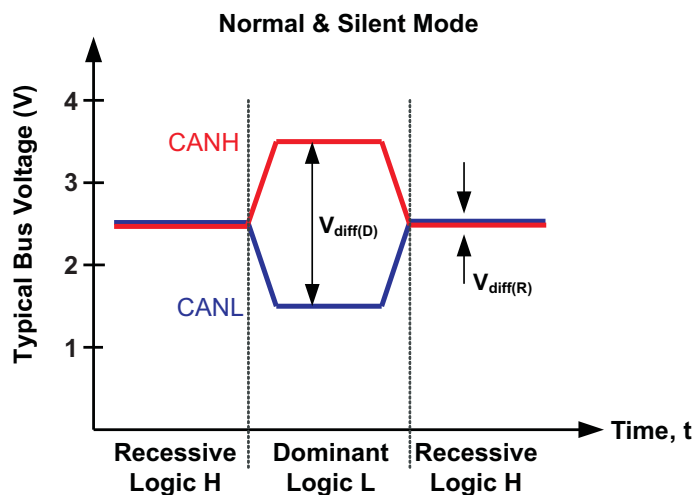
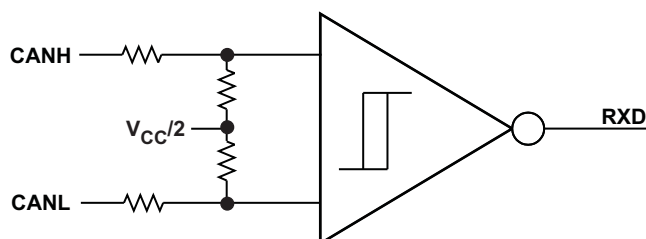

Figure 15. Bus States (Physical Bit Representation)
Figure 16. Simplified Recessive Common Mode Bias and Receiver
(1) H = high level, L = low level, X= irrelevant, Z = common mode (recessive) bias to $V_{CC} / 2$. See Figure 15 and Figure 16 for bus state and common mode bias information.
(2) Devices have an internal pulldown to GND on S pin. If S pin is open the pin will be pulled low and the device will be in normal mode.
(3) Devices have an internal pullup to V_{CC} on TXD pin. If the TXD pin is open the pin will be pulled high and the transmitter will remain in recessive (nondriven) state.
The CAN bus has two states during powered operation of the device: *dominant* and *recessive*. A dominant bus state is when the bus is driven differentially, corresponding to a logic low on the TXD and RXD pin. A recessive bus state is when the bus is biased to $V_{CC} / 2$ via the high-resistance internal input resistors R_{IN} of the receiver, corresponding to a logic high on the TXD and RXD pins. See Figure 15 and Figure 16.